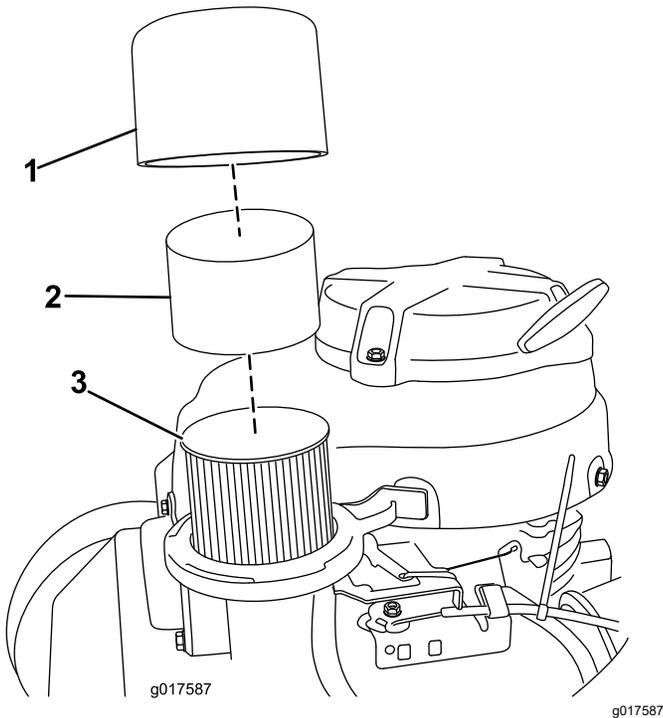

Figure 25
3. Remove the cover and clean it thoroughly (Figure 25).
4. Remove the foam pre-cleaner and wash it with a mild detergent and water, then blot it dry (Figure 25).
5. Remove and inspect the paper air filter (Figure 25); discard it if it is excessively dirty.